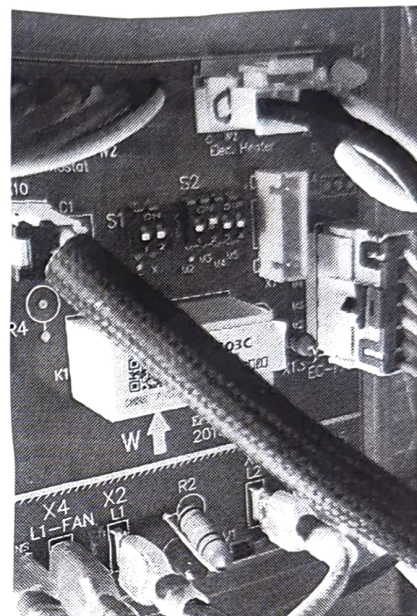

Fig. 4 - Installed 4-pin plug
5. Connect the 4-pin plug to the control circuit board of the air handler (see fig. 4). Use wire nuts provided to connect the Black and Red wire leads from the adaptor harness to the AHU incoming power leads.